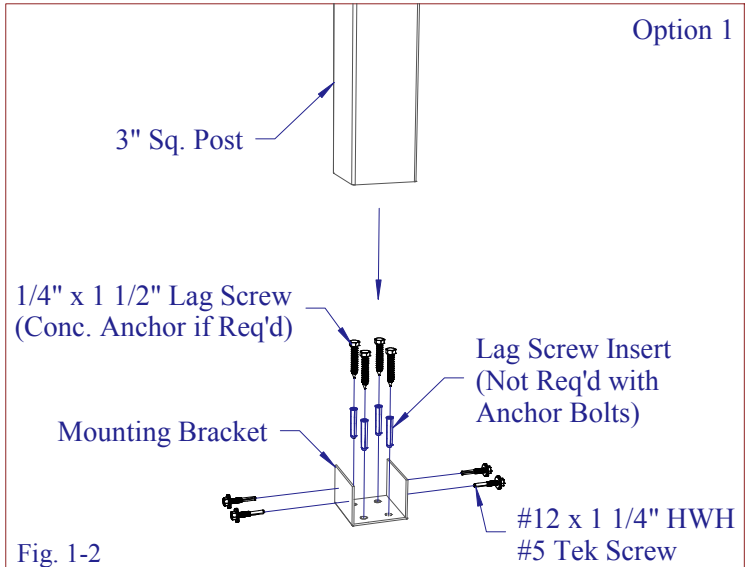
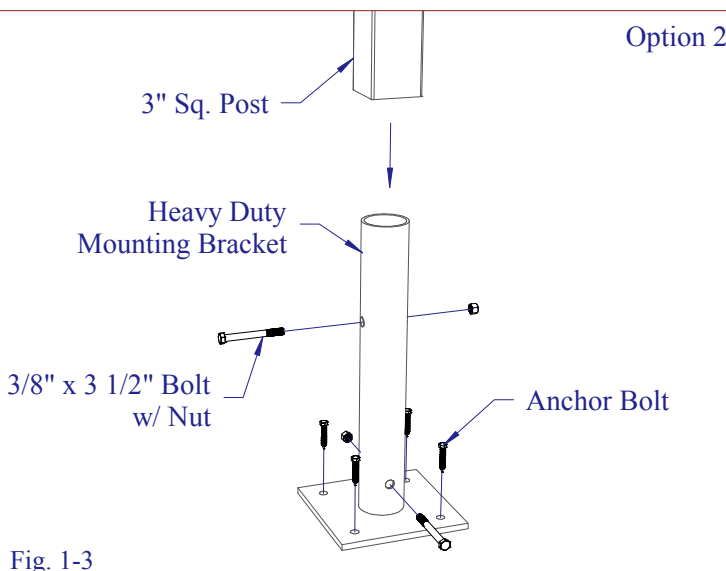
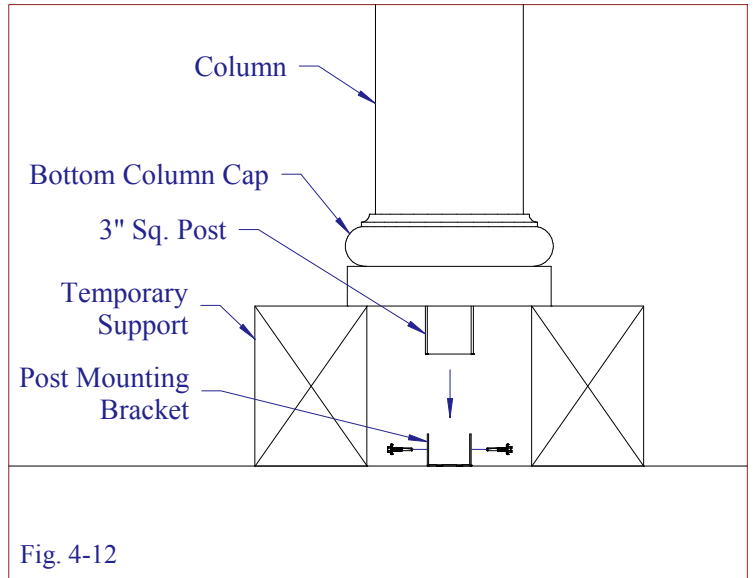

Fig. 1-2
Fig. 1-3
Fig. 4-12
Option 1 - If your pergola has the standard post mounting brackets, anchor them at the intersection of two centerlines by drilling (4) 3/8" diameter holes and embedding (4) lag screw inserts. Then, attach the brackets to the surface using (4) 1/4" x 1 1/2" lag screws or appropriate anchors. Attach a post to each bracket using (4) #12 x 1 1/4" HWH #5 Tek screws (see Fig. 1-2).
Option 2 - If your pergola has the heavy duty mounting brackets, anchor them at the intersection of two centerlines by drilling (4) holes for anchor bolts (not included, hole size will vary). Attach the bracket to the surface using (4) appropriate anchor bolts. Attach a post to each bracket using (2) 3/8" x 3 1/2" bolts (see Fig. 1-3). NOTE: If installing post side plates, only one bolt is required for the post to bracket connection. Run the bolt the same direction the header will run.
Option 1 - If your pergola is surface mounted, anchor the post mounting brackets to the surface as shown in Fig. 1-2 or Fig. 1-3. Prop up the column using any type of support block as show in Fig 4-12. Let the post slide down and attach to the post mounting bracket as shown in Fig. 1-2 or Fig. 1-3. Remove the support blocks and anchor the bottom column cap.